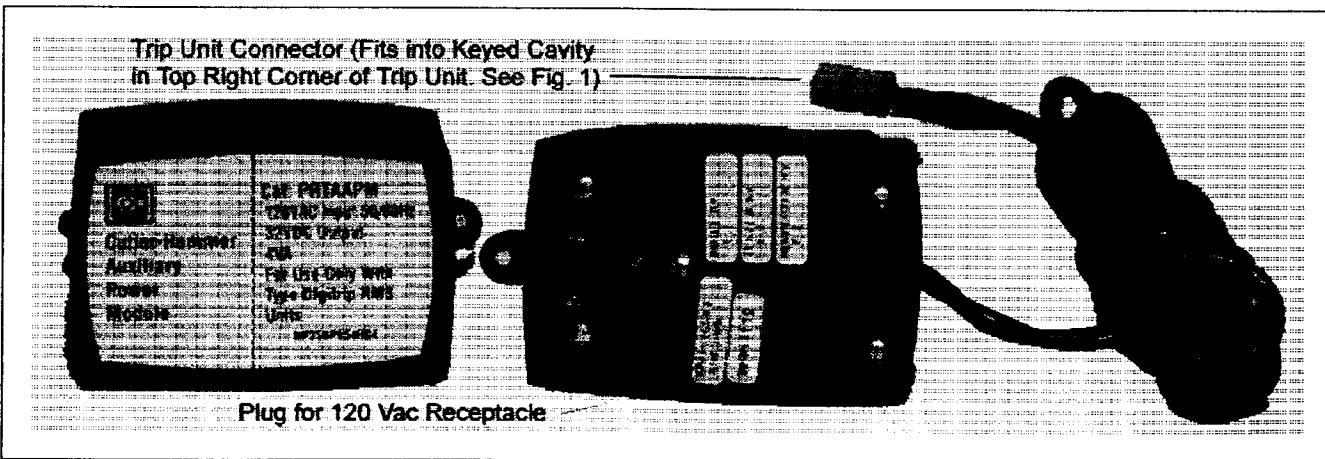

Fig. 7 Auxiliary Power Module
Since the Digitrip RMS 510 Trip Unit is completely self-powered using energy derived from the current sensors installed in the circuit breaker, all in-service tests conducted should be conducted with the auxiliary control power module, shown in Fig. 7, plugged into the trip unit. This action will avoid difficulties caused by load current levels that are too low to operate the trip unit.
- 1) **Before starting any test sequence**, check the Unit Status (Green LED) in the lower right corner of the trip unit (See Figs. 1 and 5) to be sure it is blinking on and off about once each second, which indicates that the trip unit is functioning normally. In the event the Unit Status LED is not blinking, install an Auxiliary Power Module (APM) (See Fig. 7), or if you have one already, check to see that it is connected correctly.
- a) *the current is not less than 10% of the breaker frame (or current sensor) rating; be sure the "GREEN" Unit Status LED (in the lower right corner of the trip unit (See Figs. 1 and 5) is blinking on and off (indicating that there is enough current flowing to provide the power necessary to operate the trip unit). In the event the Unit Status LED is either lighted "GREEN" or "OFF" continuously, there is NOT enough current flowing to power the trip unit; and an APM (See Fig. 7) should be installed before proceeding with the test.*
- 3) **When performing tests on the Long Delay element**, be aware that in addition to the standard protection element, the Digitrip RMS 510 Trip Unit also has a Long Time Memory function (LTM), which serves to protect load circuits from the effects of repeated overload conditions. (See NOTE 1 under Section 4.3 Long Delay Time Setting.) The action of the LTM will have the same effect of advancing the Long Delay Trip Time if multiple Long Delay Time tests are performed repeatedly - as one might do in making single phase tests on each pole of a breaker in succession, for example. If you have sufficient experience in performing tests with this kind of accelerated trip timing, you may be comfortable with the results of tests performed in quick succession. However, if there is any question, you may simply wait about ten (10) minutes after a Long Delay Trip for the LTM to reset, before you check the next pole.
For testing the trip unit, an optional Auxiliary Power Module (Cat. No. PRTAAPM) as shown in Fig. 7 is recommended. This Auxiliary Power Module, which operates from a separate 120 Vac supply, may be used when a drawout circuit breaker is in any of its four cell positions, i.e., "Connected", "Test", "Disconnected" and "Withdrawn" (or "Removed.")
**Note: For Testing Purposes Only:** When using an external single phase current source to test low level ground fault current settings, it is advisable to use the Auxiliary Power Module (APM) (See Fig. 7). Especially when the single phase current is low, without
The Auxiliary Power Module or APM (Cat No. PRTAAPM), illustrated in Fig. 7, is an encapsulated power supply that requires a 120 Vac input at either 50 or 60 Hz. It provides an output of 32 Vdc (nominal 40 Vdc open circuit) which can be used for testing a Digitrip RMS 510 Trip Unit.